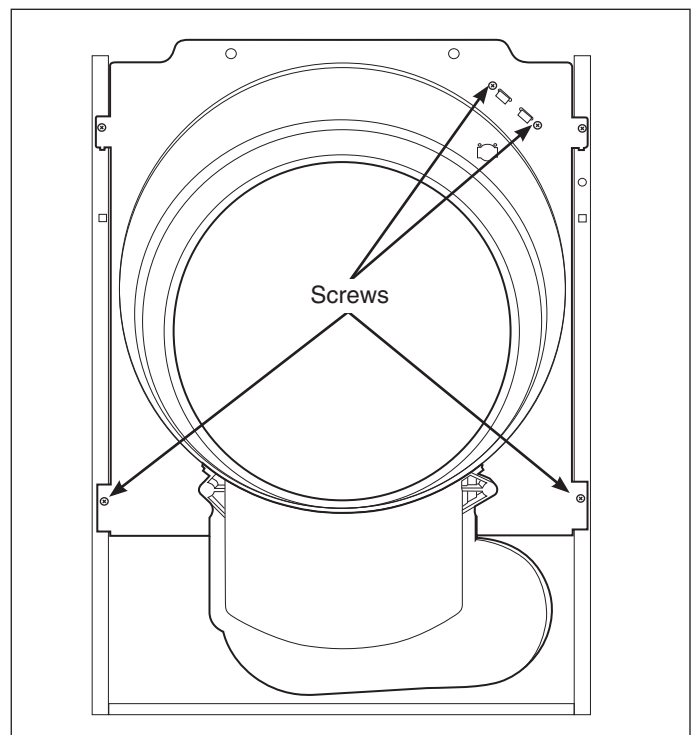

Figure 4-30.
2. Using a #2 square bit screwdriver, extract the four screws securing the inner front panel to the unit frame. (See Figure 4-30)